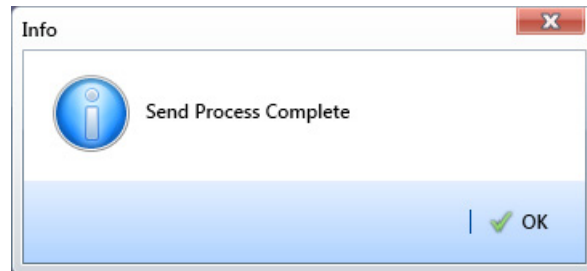

Figure 13-11. Send Process Complete
- 16 Click  **OK** when the message *Send Process Complete* displays (Figure 13-11). If you selected to send the survey file to the Allegro, the survey file transfers to the *PSData* folder on the Allegro.